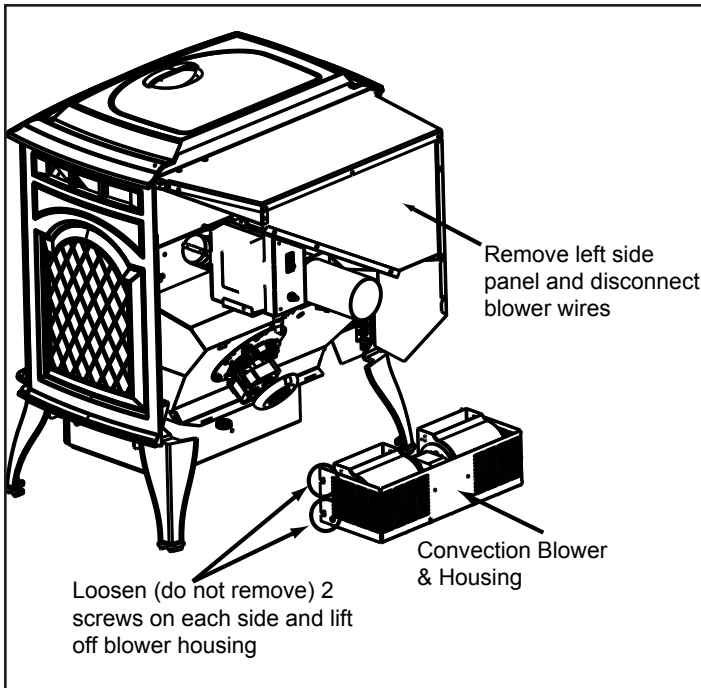

Figure 23.1
- There are 2 screws on each side of the housing. Loosen all 4 screws, but do not remove them. Lift the blower housing up slightly and slide towards you. **Figure 23.1 on page 23.**